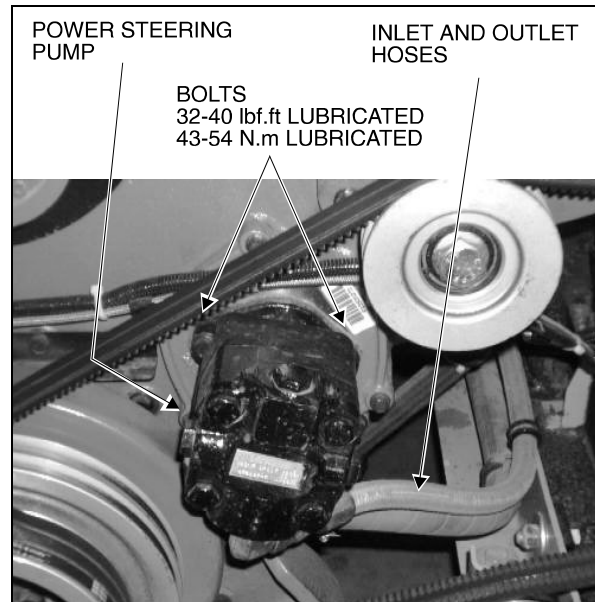

FIGURE 1
Open engine compartment door(s), locate power steering pump (Fig. 1), and inspect pump flange region for oil leaks. If leak is detected, proceed with step B, otherwise, don't perform it.
2. Unscrew the two bolts (Fig. 1) retaining power steering pump and remove it without disconnecting it from inlet and outlet hoses.